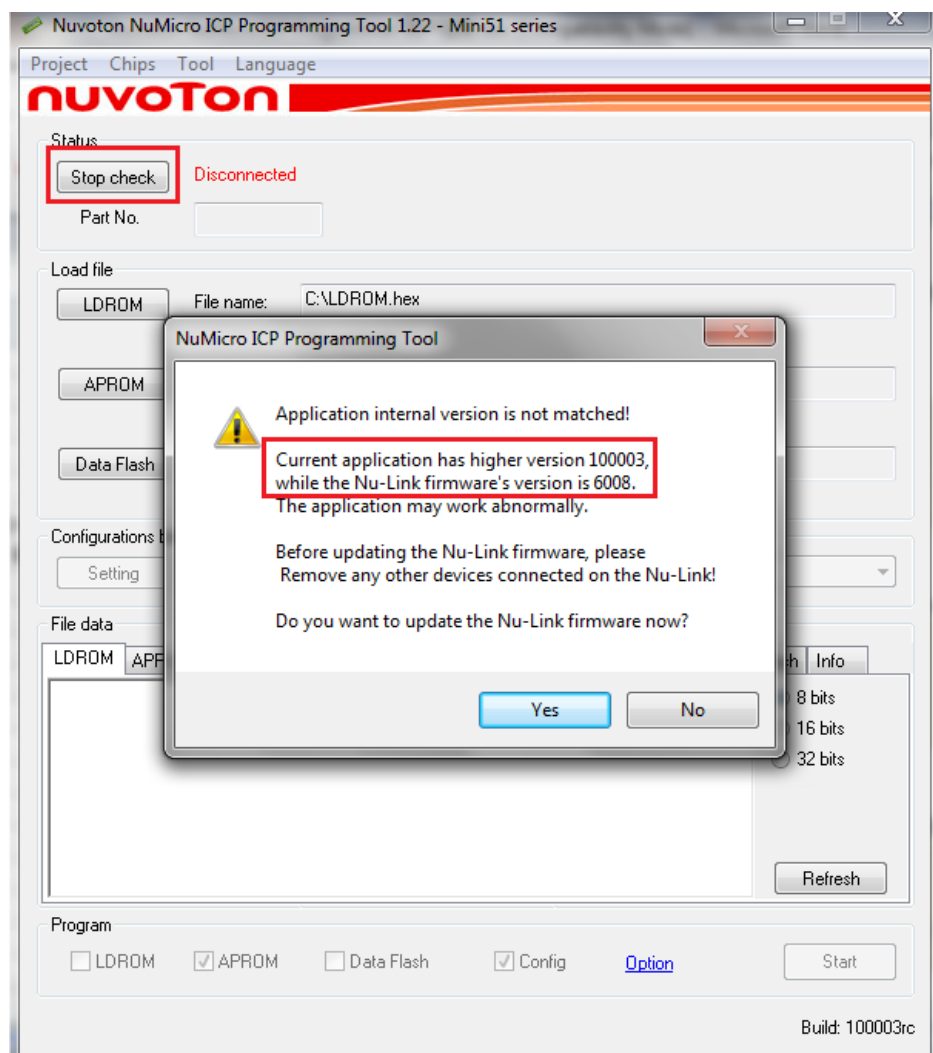

Figure 7-1 Firmware Update Selection Dialog Box
**Step 1:** Run the ICP Programming Tool. Click 'Connect' and start to connect to a device. If the firmware version and driver version are not matched, a firmware update dialog will be displayed, as shown in Figure 7-1.